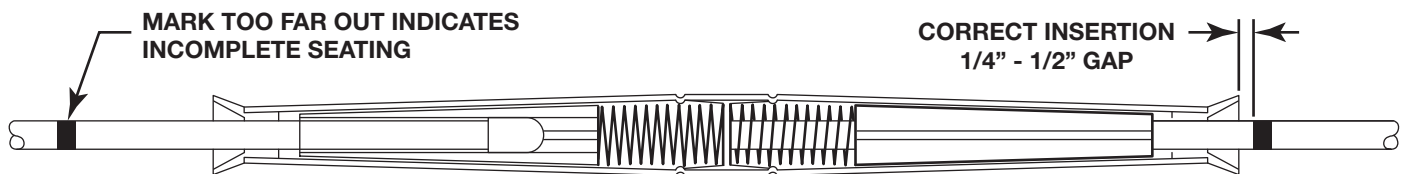

FIGURE 3
**DO NOT TWIST.** Do not push conductor partially in, pause and then continue. Insertion must be accomplished with one continuous thrust. Check markers for full insertion. If insertion is not complete, conductor will not be gripped and will pull out easily. See figure 3.